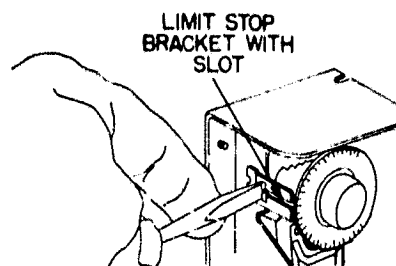

Fig. 5: Sliding Stop to Front of Control to Set High Limit Stop
3. Slide dial stop to front of control (toward dial) against stop behind dial, see Fig. 5.